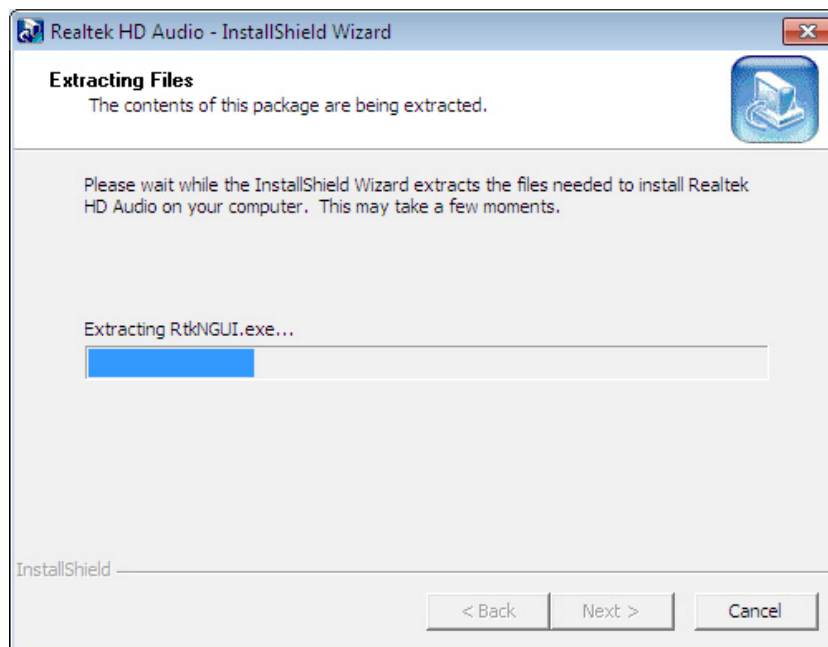

Figure 6-16: Audio Driver – Extracting Files
Step 4: The InstallShield Wizard starts to extract files (**Figure 6-16**).